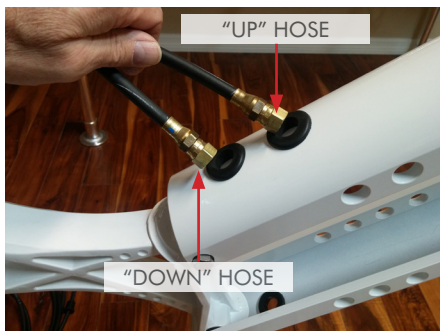

Figure 5
STEP 2 Route the **UP Hose** through the Top Hole in the new U-Channel and the **DOWN Hose** through the Bottom Hole in the new U-Channel. **FIG 5**